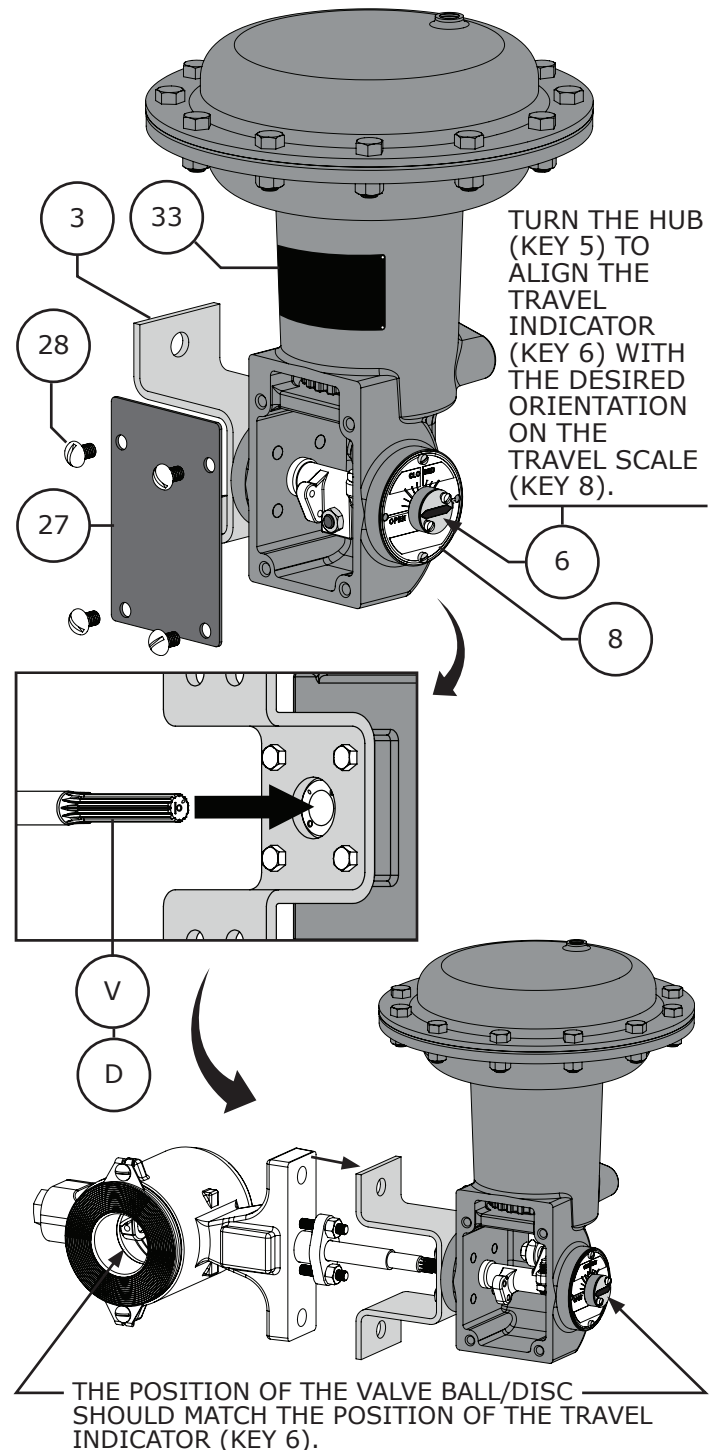

Figure 3 Actuator Mounting
Refer to Figures 3 & 4 of Sales Bulletin.
Check the packing list, verify that the list includes all the materials in the shipping container before unpacking. Valve information can be found on the nameplate (Key 33). Refer to Figure 3 for nameplate location.
- 8 Slide the actuator onto the valve shaft as shown in Figure 3. Refer to Figures 10 for actuator mounting positions and orientations.